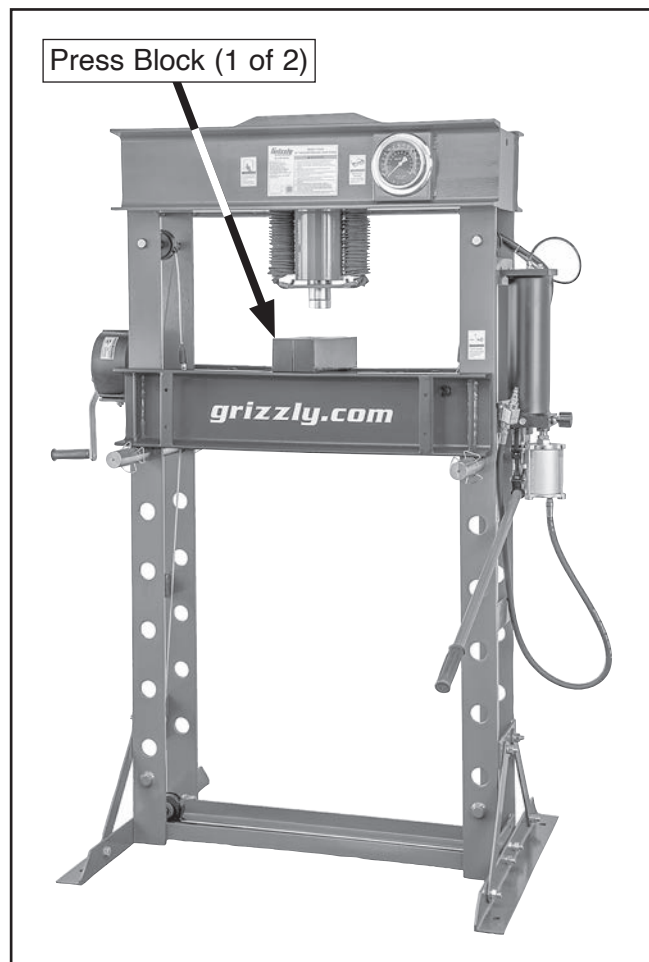

Figure 16. Blocks on press bed (safety guard removed for clarity).
28. Place (2) press blocks on press bed as desired (see **Figure 16**).